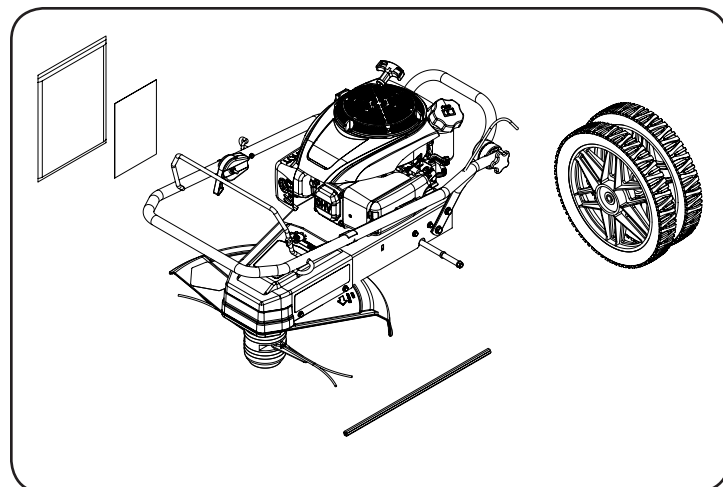

Figure 1
1. Remove wheels, manuals and extra trimming line from box (see Figure 1). With assistance, lift the trimmer out of box and set on a level surface.